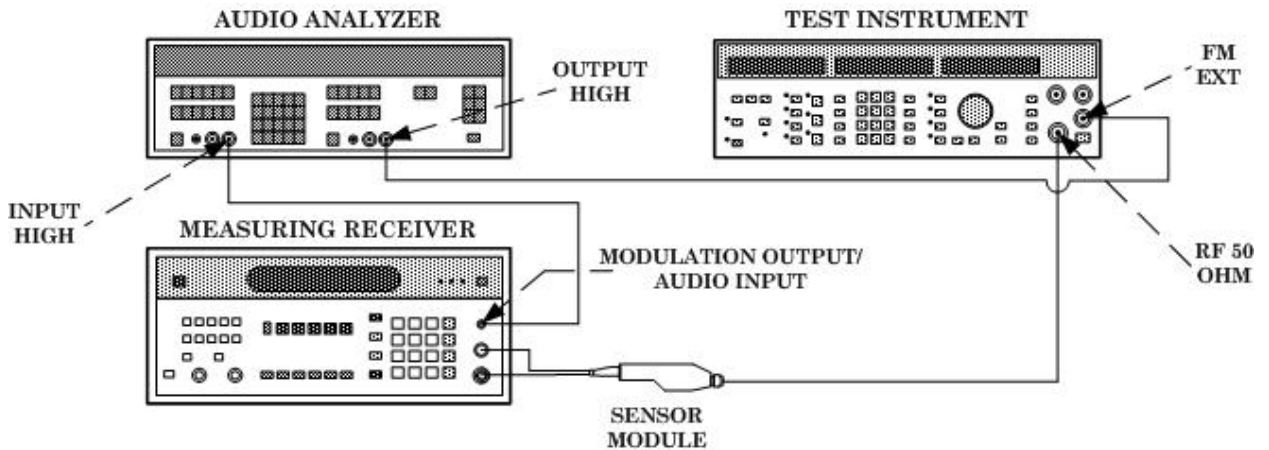

Figure 8. PM modulation.
(1) Connect equipment as shown in figure 8.